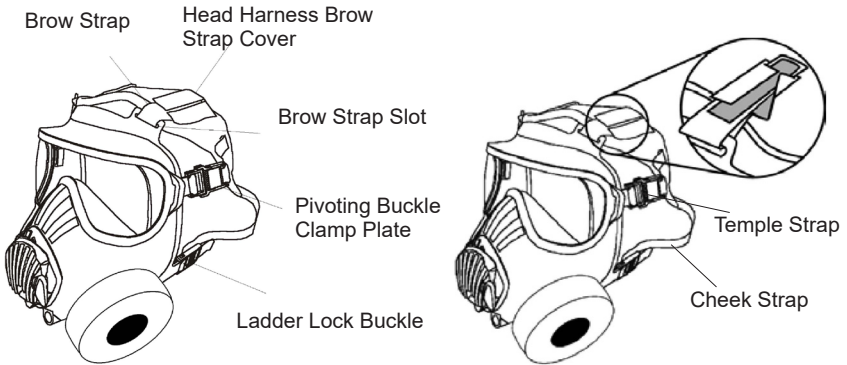

Fig 4: Harness Arrangement
(Note: The temple strap buckles are pivoting cam-lock buckles (Fig 4 & 5), which are set using the clamp plates and not adjusted for donning and doffing the Respirator).
(Note: The cheek strap buckles (see Fig 4 & 5) are ladder lock running buckles and are tightened and slackened every time the Respirator is donned and doffed).
- Check that the brow straps are correctly adjusted and properly secured in the brow strap pockets (Fig 4).